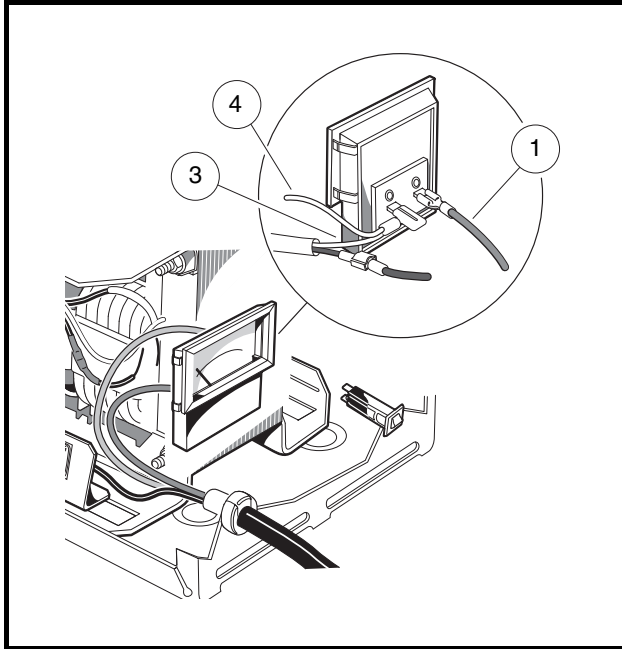

Figure 5-20 Ammeter
3. Disconnect the DC cord red wire (1) and the white wires (3 and 4) from the ammeter (**Figure 5-20, Page 5-27**).
1. Place the ammeter in position in the charger face and ensure that the locking tabs are secure (Figure 5-20, Page 5-27).
2. Connect the DC cord red wire (1) and the white wire (3) to the ammeter terminals.
3. Disconnect the white wires (3 and 4) from the ammeter (**Figure 5-20, Page 5-27**).